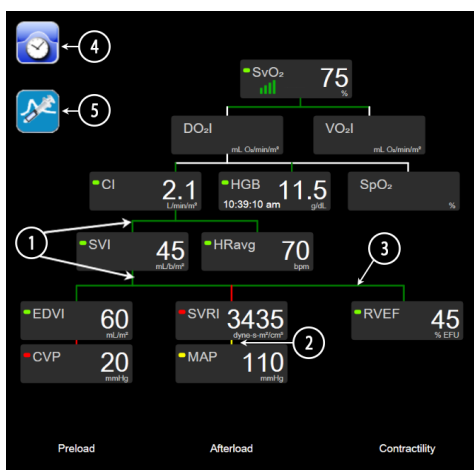

Figure 5-14 Physio relationship screen while monitoring with HemoSphere Swan-Ganz module
- 2 Vertical lines that directly connect two parameters will appear in the same color as the parameter lantern below (for example, between SVRI and MAP in figure 5-14).
- 4 The left bar appears after a bolus set is performed. Touch the clock/waveform icon to display historical data when available (see figure 5-14).
The example shown in figure 5-14 is while monitoring with a HemoSphere Swan-Ganz module. Differences in appearance and parameters will occur with other monitoring modes. For example, while monitoring within minimally-invasive monitoring mode, HR_{avg} is replaced by PR, PPV and SVV appear (if configured), and EDV and RVEF are not shown.